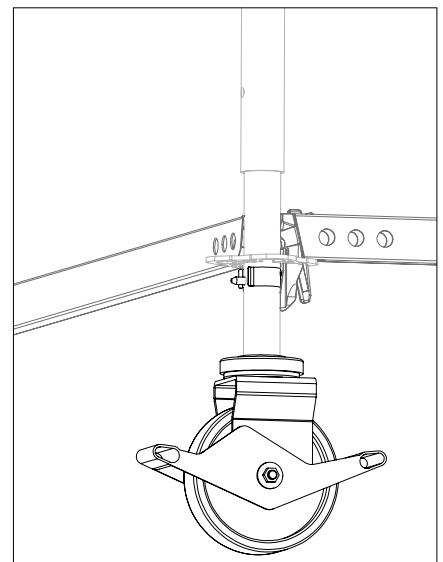

Fig. A1.14a
3. Fit the ledger in such a way that the wedge is on the side of the tensioning spring. Otherwise it will collide with the bolt. (Fig. A1.14a)